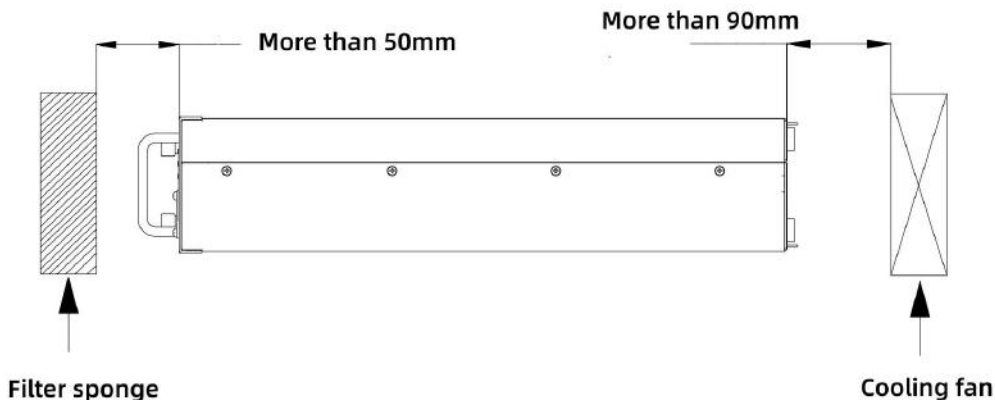

Figure 3-9 Air inlet and outlet distance diagram
- The distance between the rear end of the charging module and the cooling fan is more than 100mm, and the terminal cable on the system side needs to be bent when installing (a certain distance is required, otherwise the cable will touch the fan), as shown in Figure 3-9.